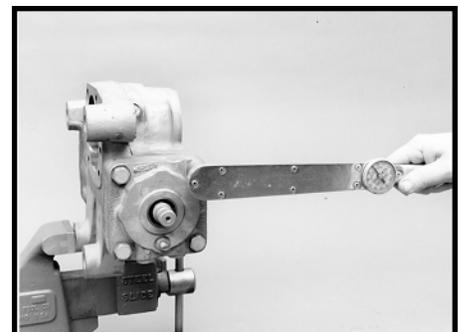

Figure 136
30. Assemble four valve housing bolts (1), 2.125 in. (53.98 mm) long, into the housing (19) and torque to 150-170 ft. lbs. (203-230 N m) if dry or 108-128 ft. lbs. (146-174 N m) if lubricated. A 13/16 inch socket required. SEE FIGURE 136.